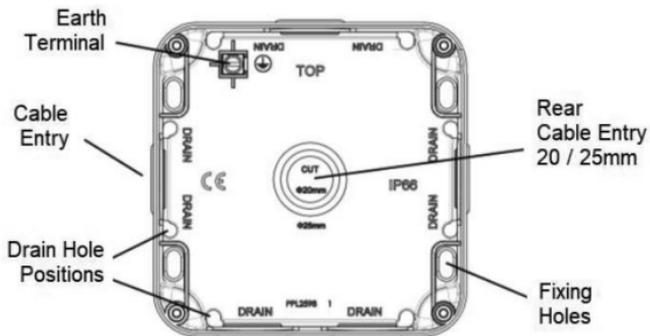

Fig. 2
- Using the backbox as a template, mark the location for, and drill the fixing holes ensuring not to infringe with any gas/water pipes or electrical cables. The backbox can be rotated through 180°, if required, to position the two cable entries on the top (see Fig. 2)
- The backbox has drain hole drilling guides marked (see Fig. 2). Drilling a drain hole is advised if the unit is installed in a location subject to temperature fluctuations where a build-up of condensation may occur. It is not advised if the unit will be subject to high pressure jets, as drilling a drain hole will reduce the IP rating. A 3-5mm hole should be drilled at the bottom back edge of the enclosure where marked. If wiring in conduit to the bottom entry, then the drain hole should be drilled at the lowest point of the conduit run not in the backbox.